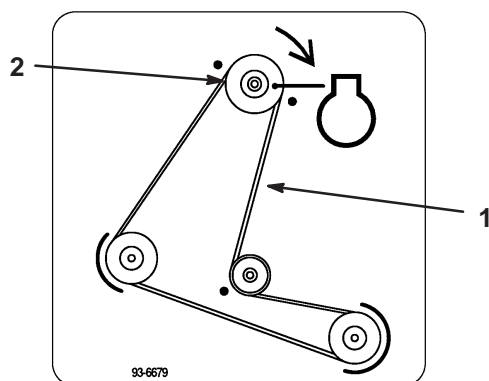

Figure 6
10. Pull on idler pulley to relax belt tension and install mower drive belt onto the top engine drive pulley groove (Fig. 6).